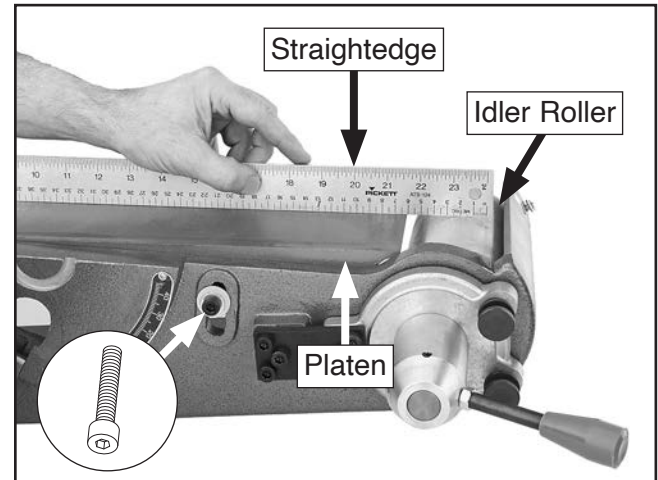

Figure 56. Example of comparing platen height with idler roller crown height.
5. Place straightedge over platen and idler roller, aligning straightedge with middle of roller (crown at highest point), as shown in **Figure 56**.
6. Loosen cap screw shown in **Figure 56**, adjust platen until it is even with middle of idler roller, then tighten cap screw to secure.